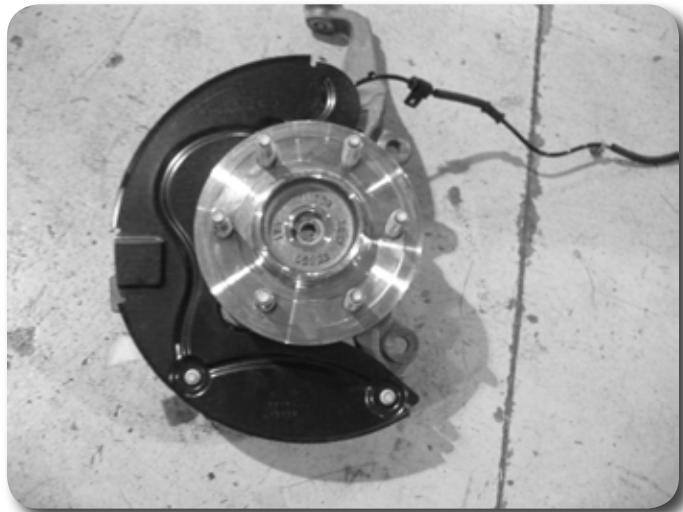

Figure 31
52. Remove the dust shield from the factory knuckle and install on the corresponding new knuckle with the original hardware (Figure 31). Tighten securely.